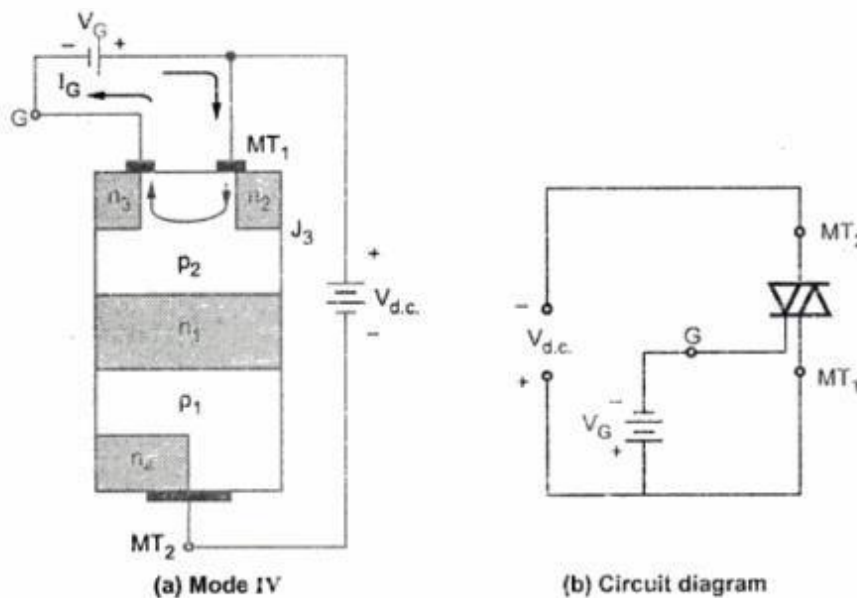

Fig. 4.39
**4. Mode IV :** In this mode, triac is reverse biased but gate is made negative as shown in the Fig. 4.39 (a) and (b).